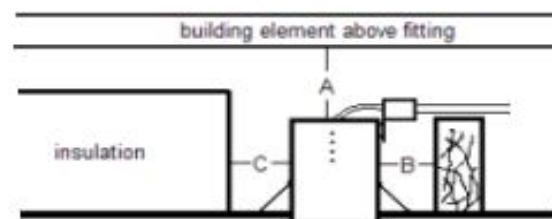

Fig. 1
Ensure there is adequate free air circulation minimum of 25 mm around and 50 mm above the luminaire, refer to Fig. 1. It is the installer's responsibility to ensure that the installation is safe and conforms to AS/NZS 3000:2007.
If loose-fill insulation is installed in the space containing this luminaire, a fire resistant barrier minimum 100mm higher than the highest surrounding insulation level **MUST** be installed to maintain the required clearances in Fig. 1.
2. Select the required position for the luminaire ensuring the clearances shown in Fig.1 are adhered to. Beware of joists, water pipes and electric cables; cut a hole in the ceiling which matches to the type of downlight (see table below). For IP65 luminaires, ensure the contact area between the fitting and the ceiling is smoothed off.